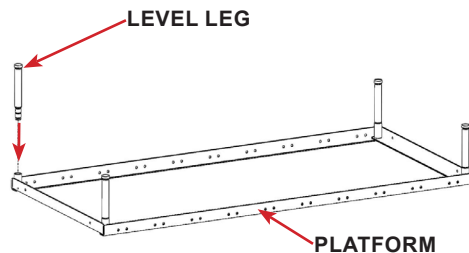

FIGURE 2.6 - Single Cage Platform
**STEP 2:** For single cage platforms, insert a leg into each of the post sockets. See FIGURE 2.6